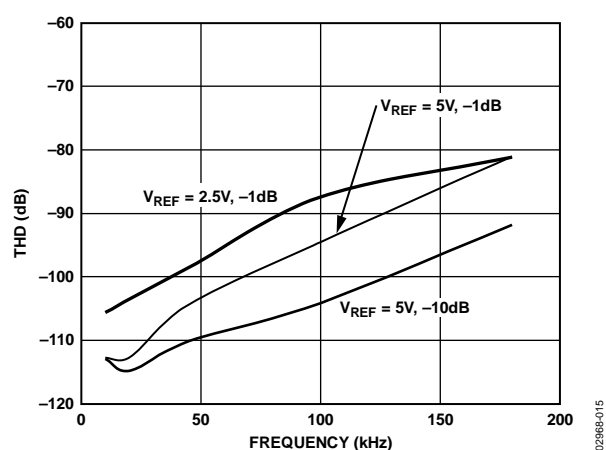

Figure 17. THD vs. Frequency
- For ac applications, the driver should have a THD performance commensurate with the AD7685. Figure 17 shows the AD7685s THD vs. frequency.